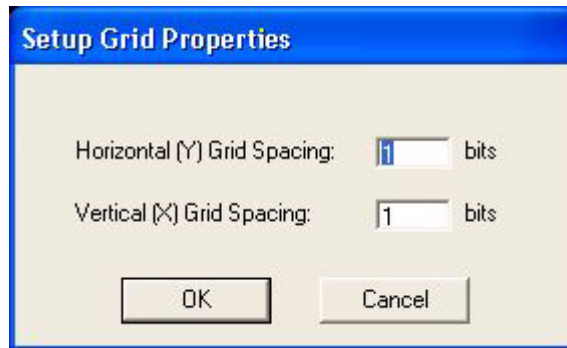

Figure 8-18. Setup Grid Properties Dialog Box
Allows you to enable or disable the display of the grid in the View pane as specified by the Setup Grid Properties dialog box (Figure 8-18).
Displays the Setup Grid Properties dialog box (Figure 8-18). When the grid displays by selecting the View > Display Grid command, the Setup Grid Properties dialog box allows you to customize the grid. For example, typing 64 in the Horizontal (Y) Grid Spacing text box and 32 in the Vertical (X) Grid Spacing text box and selecting would display a gray grid with those properties.